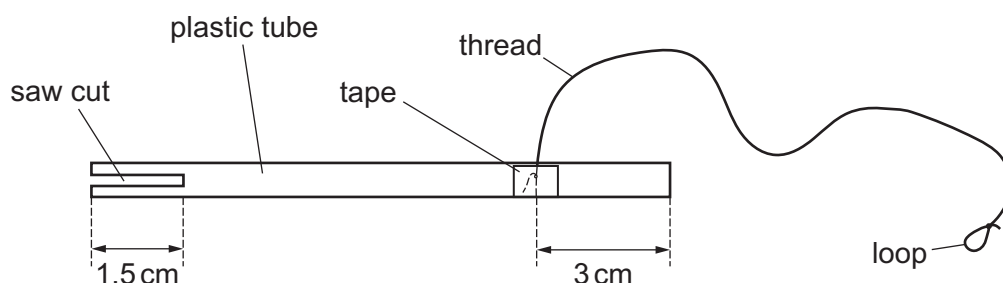

Fig. 2.2 (not to scale)
- 2 Make a saw cut of approximate width 1.0 mm down one end of the plastic tube, as shown in Fig. 2.2.
Tie the thread tightly around the tube and cover the knot with a small piece of adhesive tape (e.g. Sellotape), as shown in Fig. 2.2.
Tie a loop of approximate circumference 2 cm at the other end of the thread, as shown in Fig. 2.2.